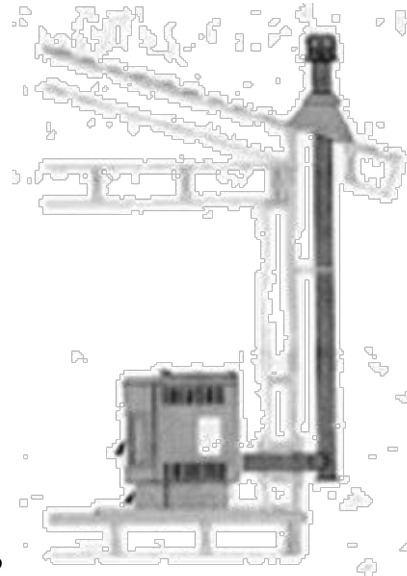

Fig. 2
- Sidewall horizontal venting (Fig. 2)